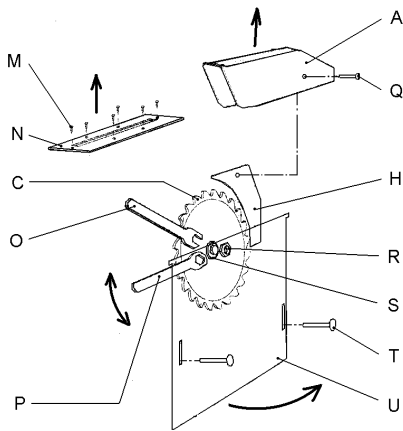

Fig. 3
Using the wrenches provided (O; P, Fig 3), loosen the arbor nut(R) while stopping the flange(S) against rotation.